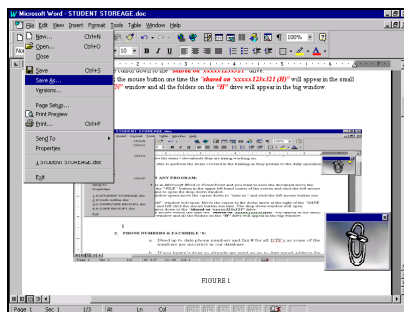

FIGURE VI.2
- 2) When the window opens, the user should move the cursor down to “Save As” (see figure VI.2) and left-click once.